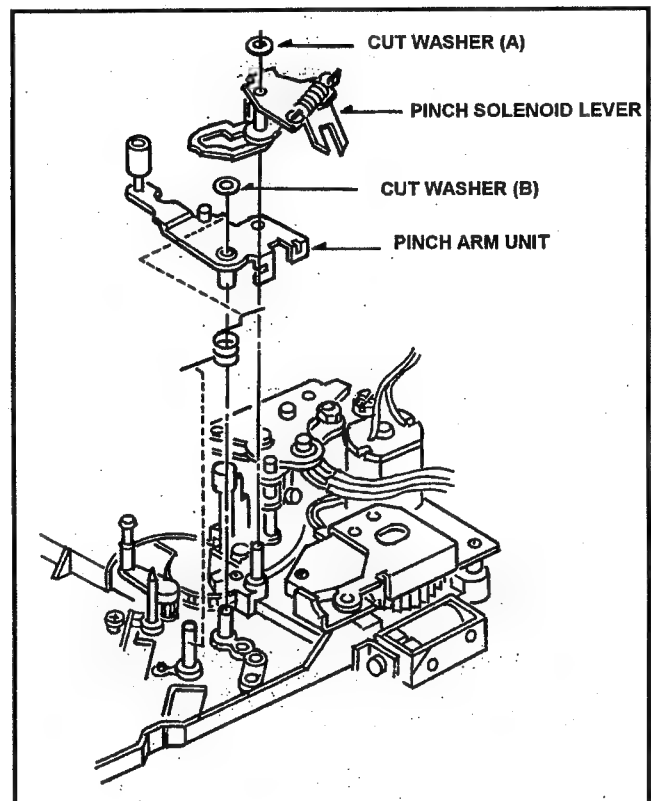

Fig. 6-5-1 Removal of Pinch Arm Unit
5. Remove the Pinch Solenoid Unit (Refer to item 6-8, then hang off the Pinch Solenoid Lever as shown in Figure 6-5-1.).
6. Remove the cut washer (A) and remove the Pinch Solenoid Lever as shown in Fig. 6-5-1.
7. Remove the cut washer (B) and remove the Pinch Arm Unit as shown in Fig. 6-5-1.